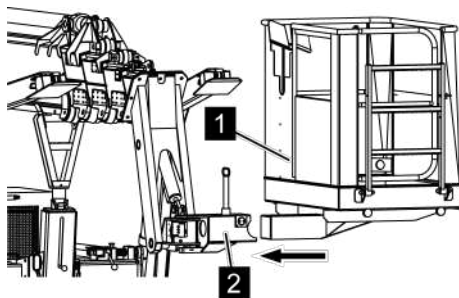

Fig. 110: Inserting the working basket
6. ➔ Push the working basket (Fig. 110/1) in up to the stop and push it into the bracket (Fig. 110/2).